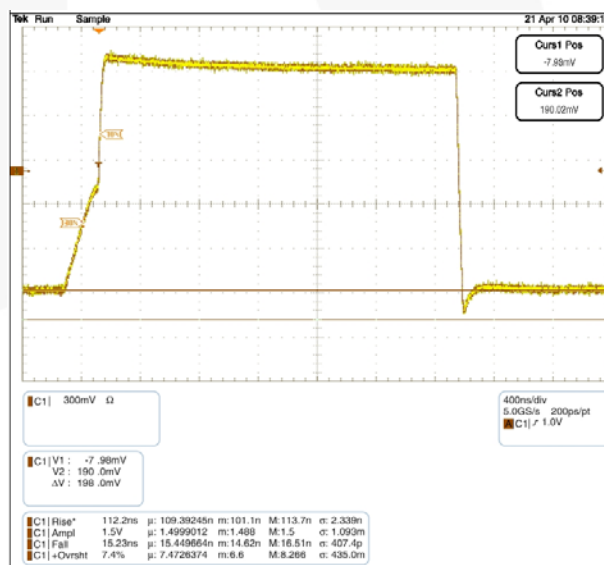

Figure 5. FXMA2102 Waveform C: 600pF, R_{PU}: 2.2K
is a slave on the B port, the Npassgates act as a low resistive short between both ports until either of the port's V_{CC}/2 thresholds are reached. After the RC time constant has reached the V_{CC}/2 threshold of either port, the port's edge detector triggers both dynamic drivers to drive their respective ports in the LOW-to-HIGH (LH) direction, accelerating the rising edge. The resulting rise time resembles the scope shot in Figure 5. Effectively, two distinct slew rates appear in rise time. The first slew rate (slower) is the RC time constant of the bus. The second slew rate (much faster) is the dynamic driver accelerating the edge.
The FXMA2102 dynamic drivers have enough current sourcing capability to drive a 400pF capacitive bus. This is beneficial for instances when an I²C buffer / repeater is required. The I²C specification stipulates a maximum bus capacitance of 400pF. If an I²C segment exceeds 400pF, an I²C buffer / repeater is required to split the segment into two segments, each of which is less than 400pF. Figure 5 is a scope shot of an FXMA2102 driving a lumped load of 600pF. Notice the (30% - 70%) rise time is only 112ns ($R_{PU} = 2.2K$). This is well below the maximum edge rate of 300ns. Not only does the FXMA2102 drive 400pF, but it also provides excellent headroom below the I²C specification maximum edge rate of 300ns.